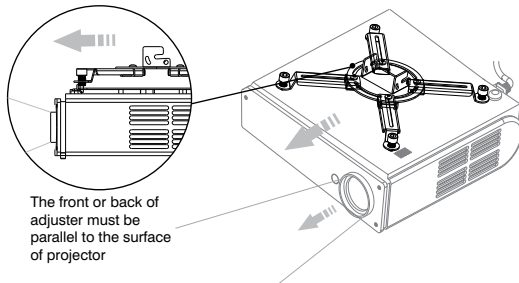

figure 7
7. Mount the projector to the Installation Bracket and then attach to the Installation Bracket, with the Projector to the Adjustor (figure 7).